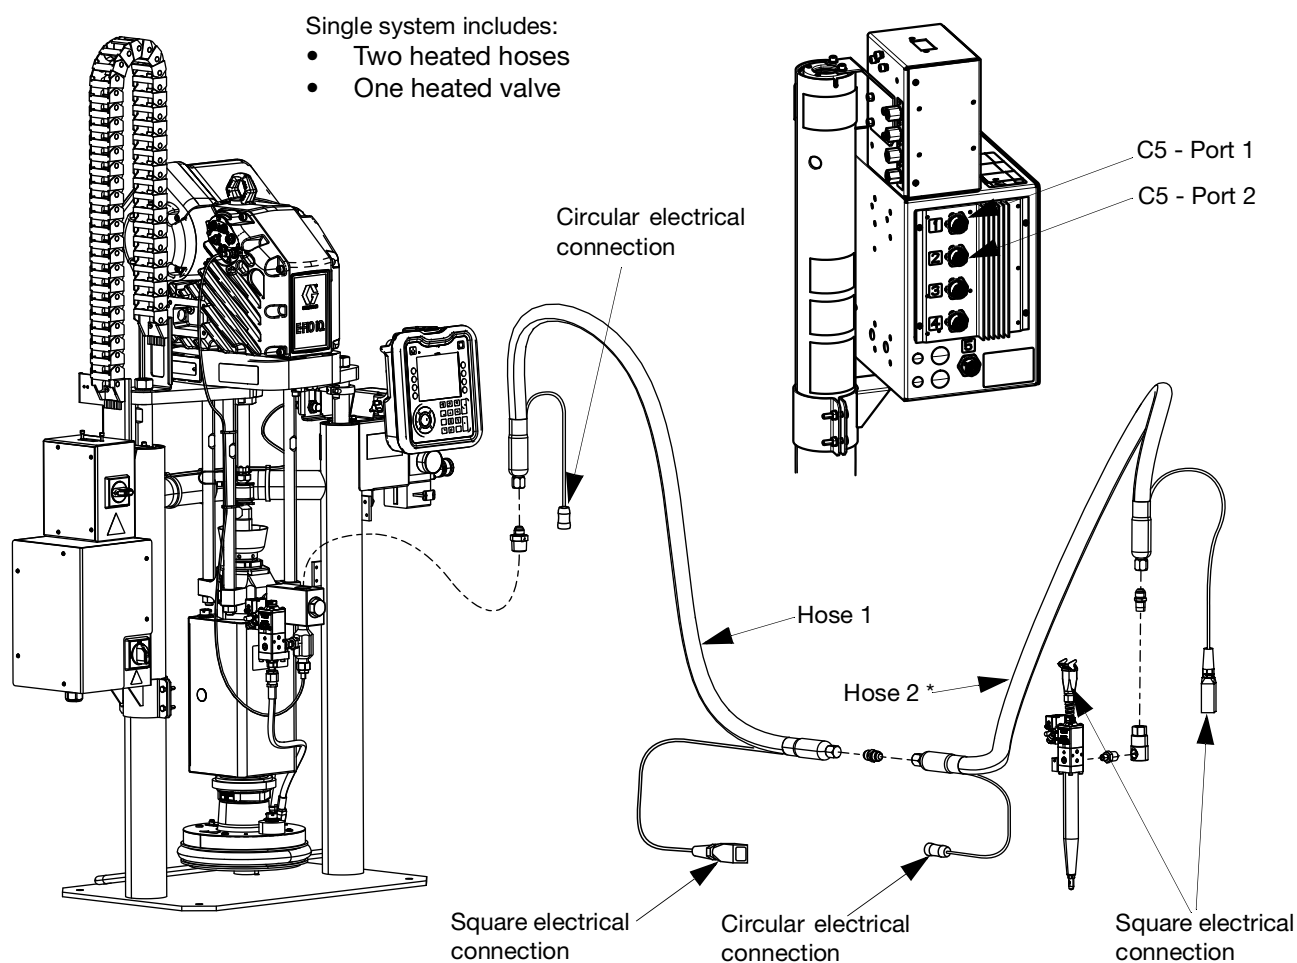

FIG. 32
- Heated valve - Square electrical connections from hose 2 to iQ dispense valve (B). See FIG. 32.